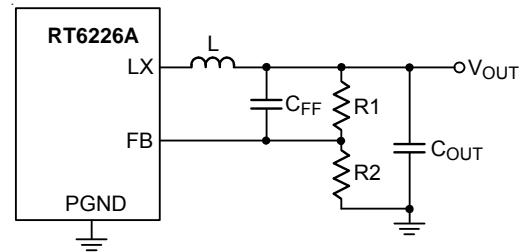
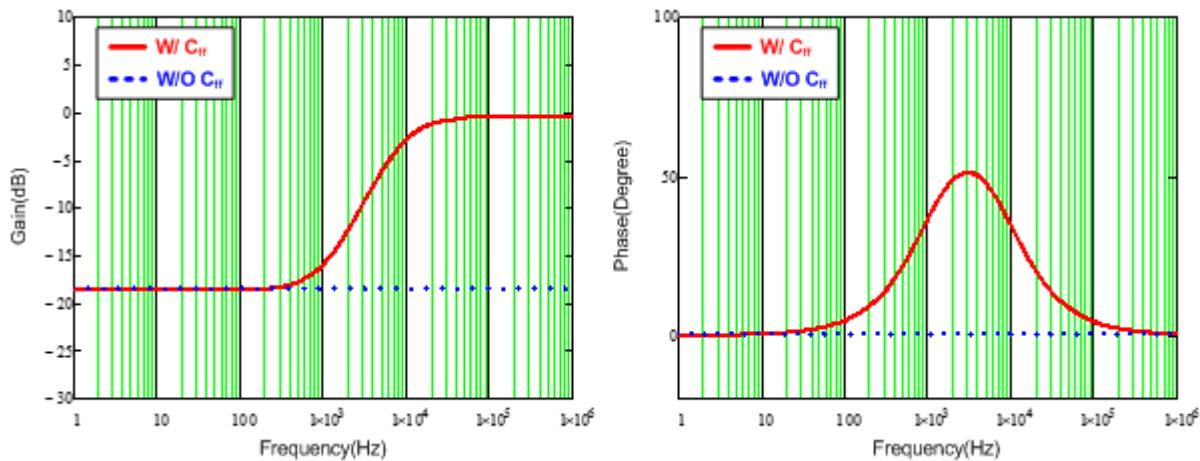

Figure 6. Feedback Loop with Feedforward Capacitor.
Figure 7. Bode Plot with Different Feedback Loop Conditions
For saving time to design compensator and reducing the layout area through external components, the components of compensator are integrated in IC. However, this integrated compensator might not suit to every load transient spec. Hence, for the RT6226A to be more adaptable, the feedforward capacitor C_{FF} is used in the feedback loop to improve transient response, as shown in Figure 6. Figure 7 shows the comparison result of bode plot with different feedback loop conditions. Referring to Figure 7, through connecting a C_{FF} in feedback network, the gain and phase are raised in mid-frequency that not only can extend the bandwidth, but boost the phase margin as well. Moreover, there is also a high frequency pole to eliminate high frequency noise. Consequently, those features of feedforward feedback network allow the RT6228A have faster response to handle different load transient.
Observing Figure 7, the maximum phase boost occurs between zero and pole frequencies that is defined as maximum phase boost frequency, as expressed in equation (4). Hence, in order to achieve the maximum phase boost by adding C_{FF} in the RT6226A, the system's original bandwidth has to be located at maximum phase boost frequency.